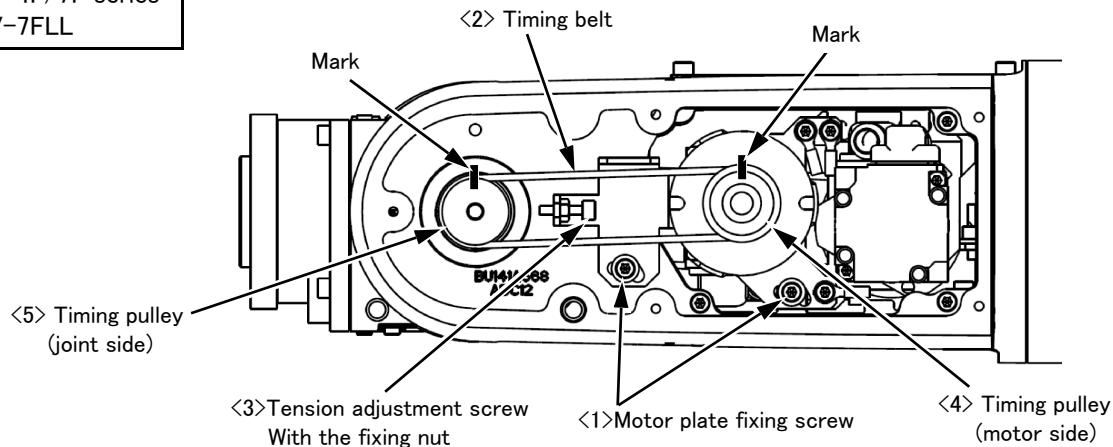
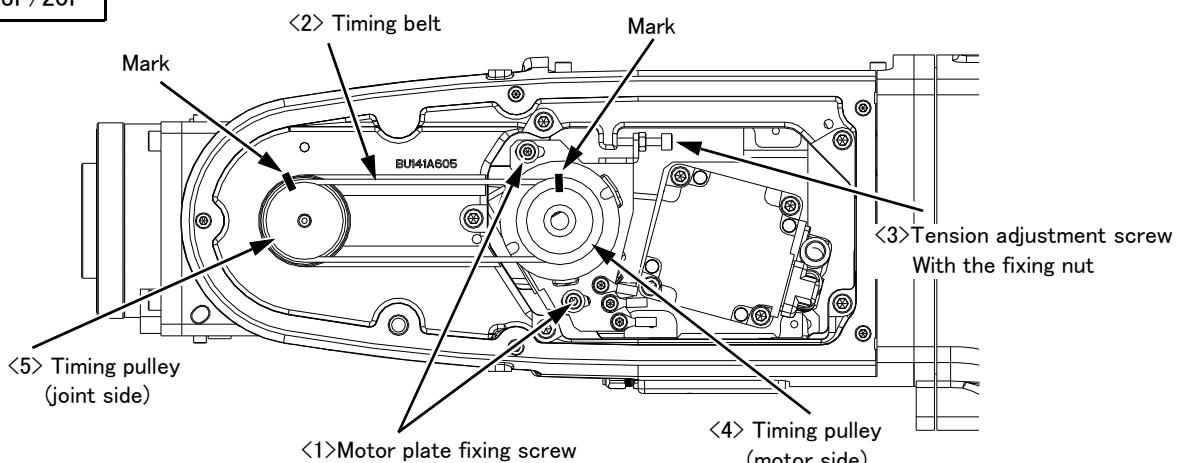

Fig.5-13 : Inspection, maintenance and replacement of J6 axis timing belt (RV-4F/7F series, RV-7FLL)
Fig.5-14 : Inspection, maintenance and replacement of J6 axis timing belt (RV-13F/20F)
The reference figure at inspection, adjustment, and replacement of the timing belt is shown in Fig. 5-13 (RV-4F/7F series, RV-7FLL) or Fig. 5-14 (RV-13F/20F).
- 3) Make marks on the timing belt <2> and timing pulleys <4> and <5> with a felt-tip pen as shown in Fig. 5-13 (RV-4F/7F series, RV-7FLL) or Fig. 5-14 (RV-13F/20F), so that the engagement of the timing belt <2> and timing pulleys <4> and <5> does not deviate.